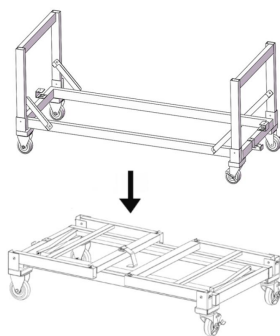

Fig.2
4. Lift up the 4 connect bracket shown on Fig.2 with your finger, then have the cart folded.